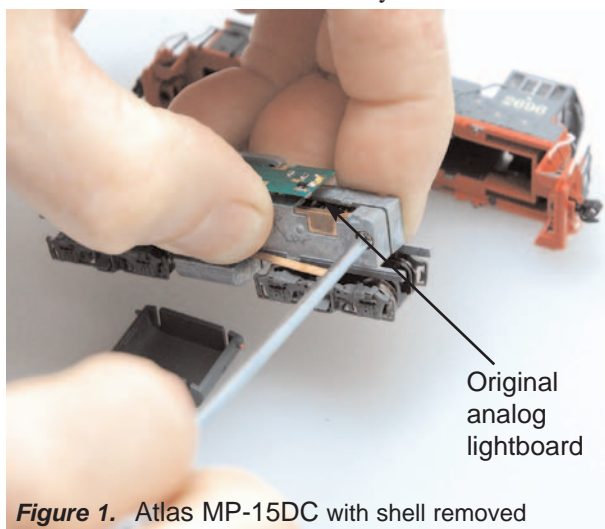

Figure 1. Atlas MP-15DC with shell removed
1. Carefully remove the locomotive's shell from the frame *(Figure 1)*
(Figure 1)
000/x00 for **OFF**. To turn **ON** transponding, program CV61 to a value of 002/x02. This allows you to use Digitrax transponding to keep track of your rolling stock. When transponding is enabled, the front light of the locomotive will flicker slightly to indicate transponding signal is being communicated. For optimal transponding operation, we recommend that you hook up the forward and rear lights as shown in the wiring diagram (*Figure 1*).